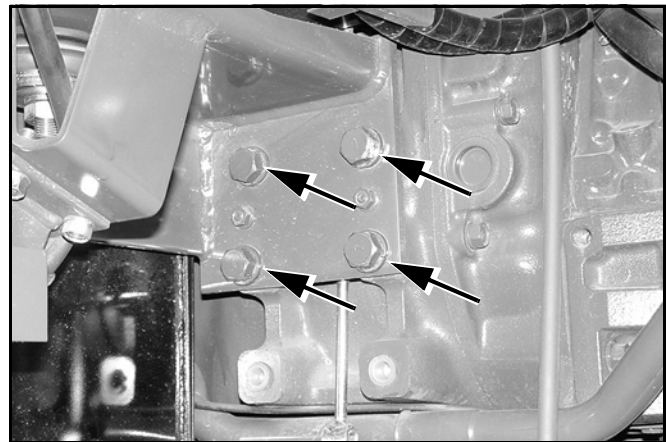

Figure 1 Remove 4 bolts on each side
3. **Cab tractors only** – Remove four bolts (Figure 1) for cab tractor mountings.